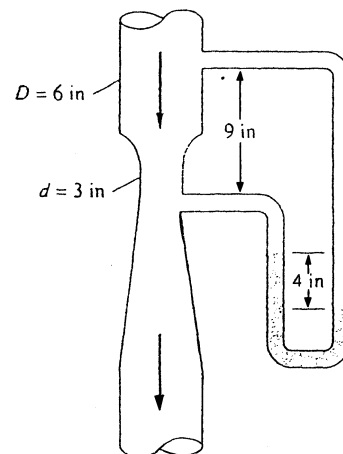

Fig. P6.156
**6.156** Ethanol at  $20^\circ\text{C}$  flows down through a modern venturi nozzle as in Fig. P6.156. If the mercury manometer reading is 4 in, as shown, estimate the flow rate, in gal/min.